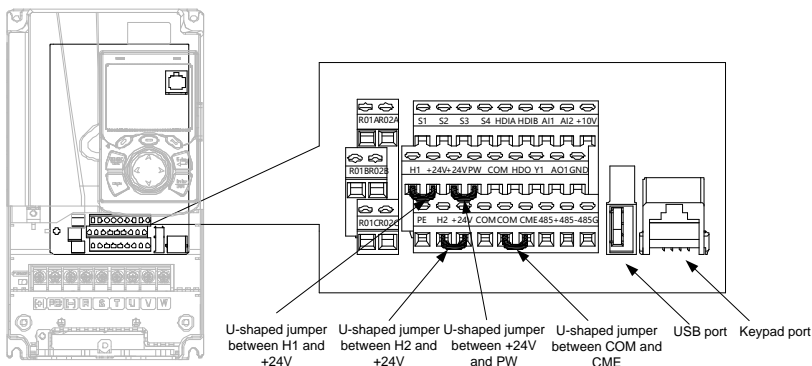

Figure 4-19 Position of U-shaped jumper
**Note:** As shown in Figure 4-19, the USB port can be used to upgrade the software, and the keypad port can be used to connect an external keypad. The external keypad cannot be used when the local VFD keypad is used.